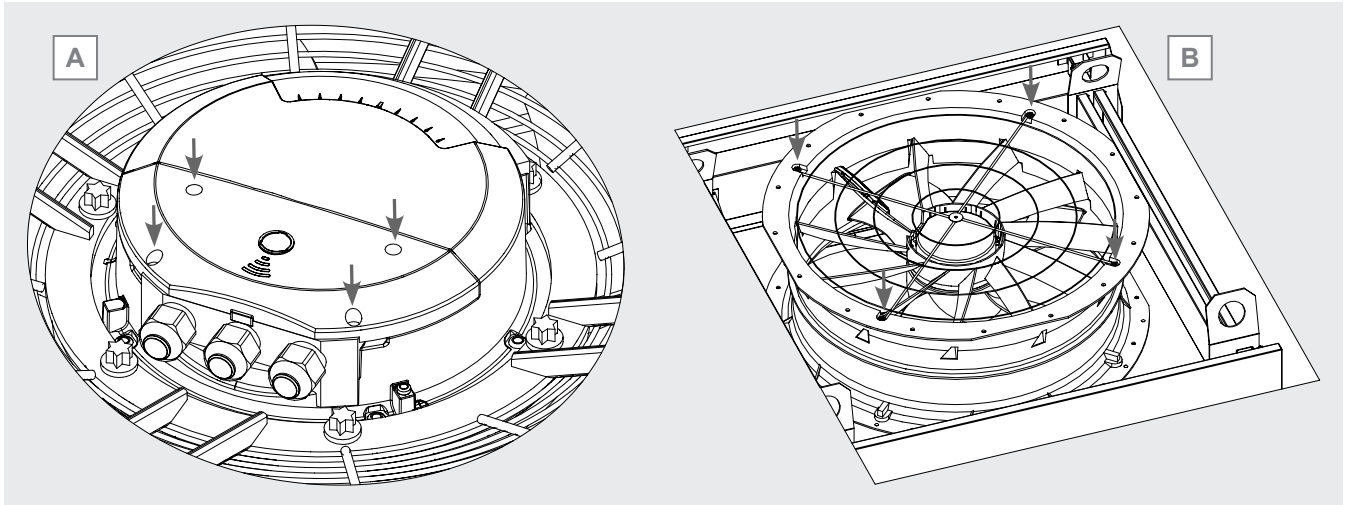

Figure 34
- radial and planar mount motorfan: the box is normally accessible. Unscrew the screws securing the cover and remove it. Store the cover in a suitable place. Shape, size and fixing points of the cover vary according to the make and model of fan: as an example, see Figure 34 A.
- Motorfan with integrated fan shroud: unscrew the screws that attach the motorgrille to the fan shroud. See Figure 34 B. Remove the grille and store it in a suitable place. Locate the motor junction box. Unscrew the screws that secure the cover and remove it. Store the cover in a suitable place. The shape, size and attachment points of the cover vary according to the make and model of fan: as an example, see Figure 34 A.